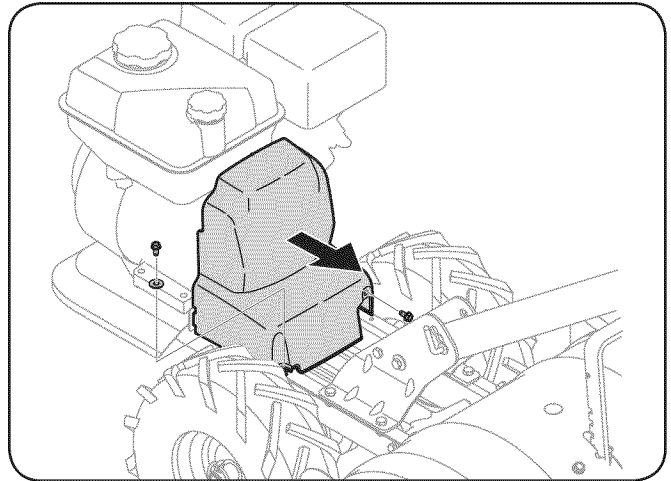

Figure 8-1
2. Remove the belt cover as seen in Fig. 8-1, by first removing the two 1/4-20 self-tapping hex screws. Lift the belt cover up and away from the tiller and set in a safe location until reinstallation.